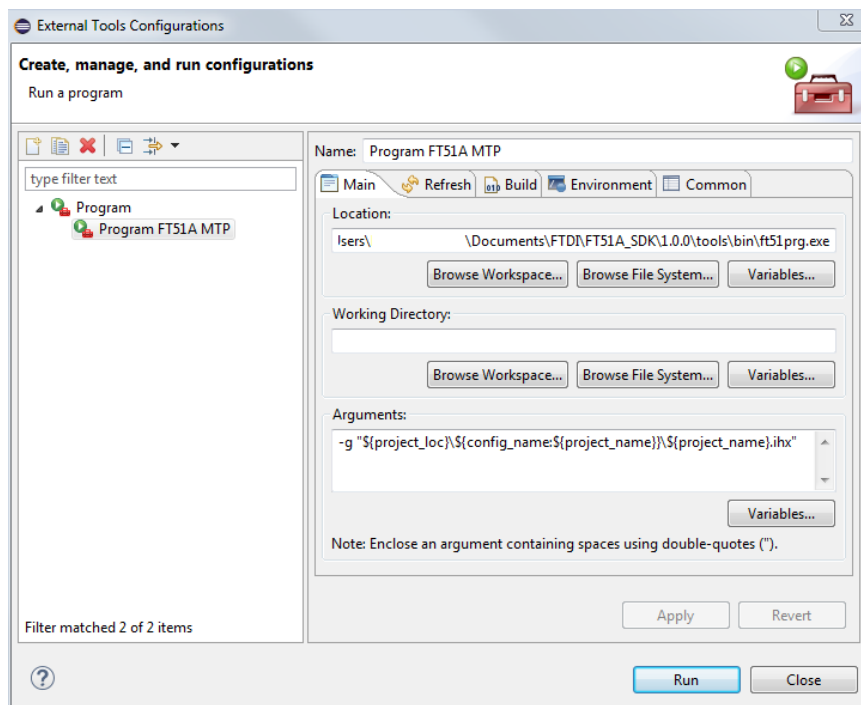

Figure 7.1 FT51A External Tools Configuration
- Enter the details as shown in Figure 7.1 as an example.